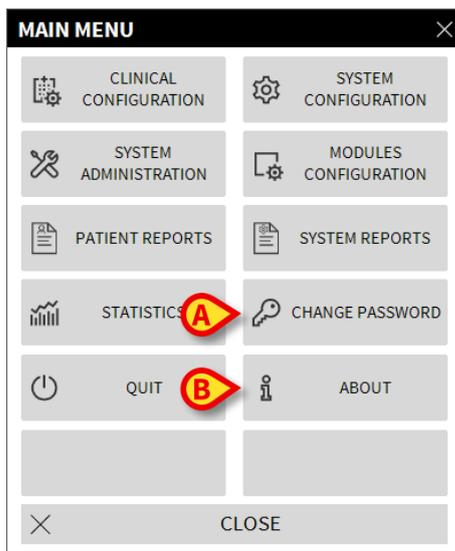

Fig 37
The **Change Password** button on the Digistat Smart Central main menu (Fig 37 **A**) opens a window making it possible to change the password of the user currently logged to the Digistat Smart Central.
- Click the **Change Password** button (Fig 37 **A**). The “Change password” window will open.
The **About** button on the Digistat Smart Central main menu (Fig 37 **B**) displays a window containing information on the Digistat Smart Central version installed and the related licenses (in Fig 39 an example).